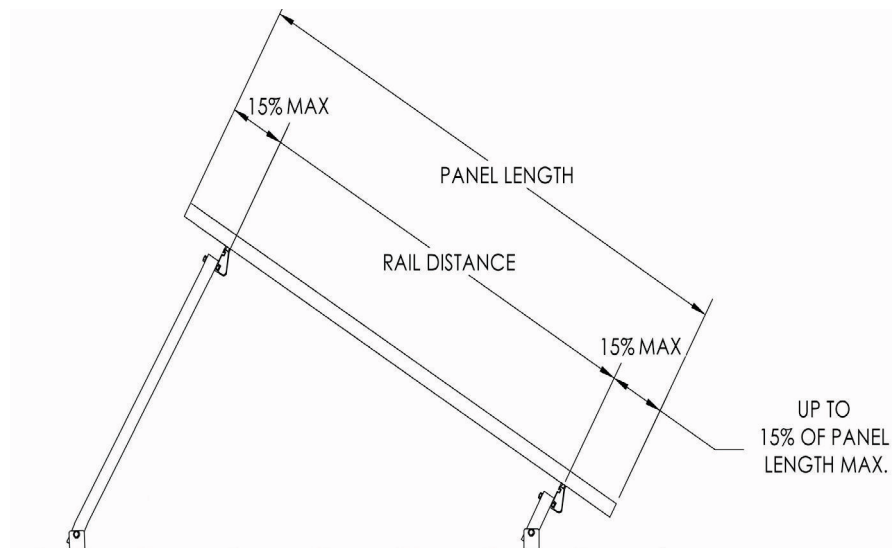

Fig. 2
**Note:** Determine the maximum distance between U-feet according to engineering specifications. In addition, please be aware that the placement of the XR rails vary by module manufacturer. Set your XR rail spacing (North to South). The maximum distance the XR rails can be placed from the edge of the module is 15% of the module's length, as shown in Figure 2. On the South side, the rail might require placement near the edge of the module to avoid the module 'crashing' into the roof as you tilt the assembly.